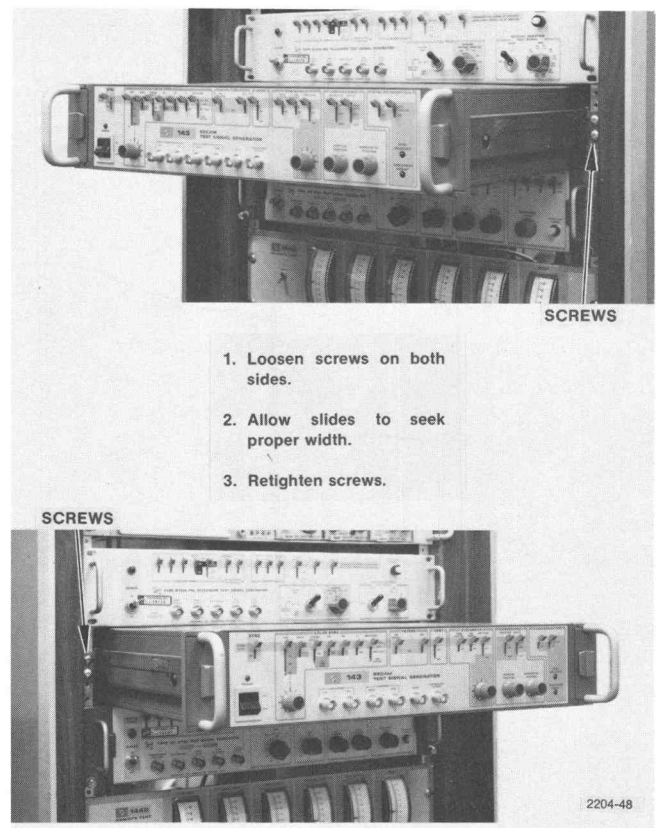

Fig. 5-16. Adjusting slides.
c. Re-tighten front and rear stationary section mounting screws (see Fig. 5-16).